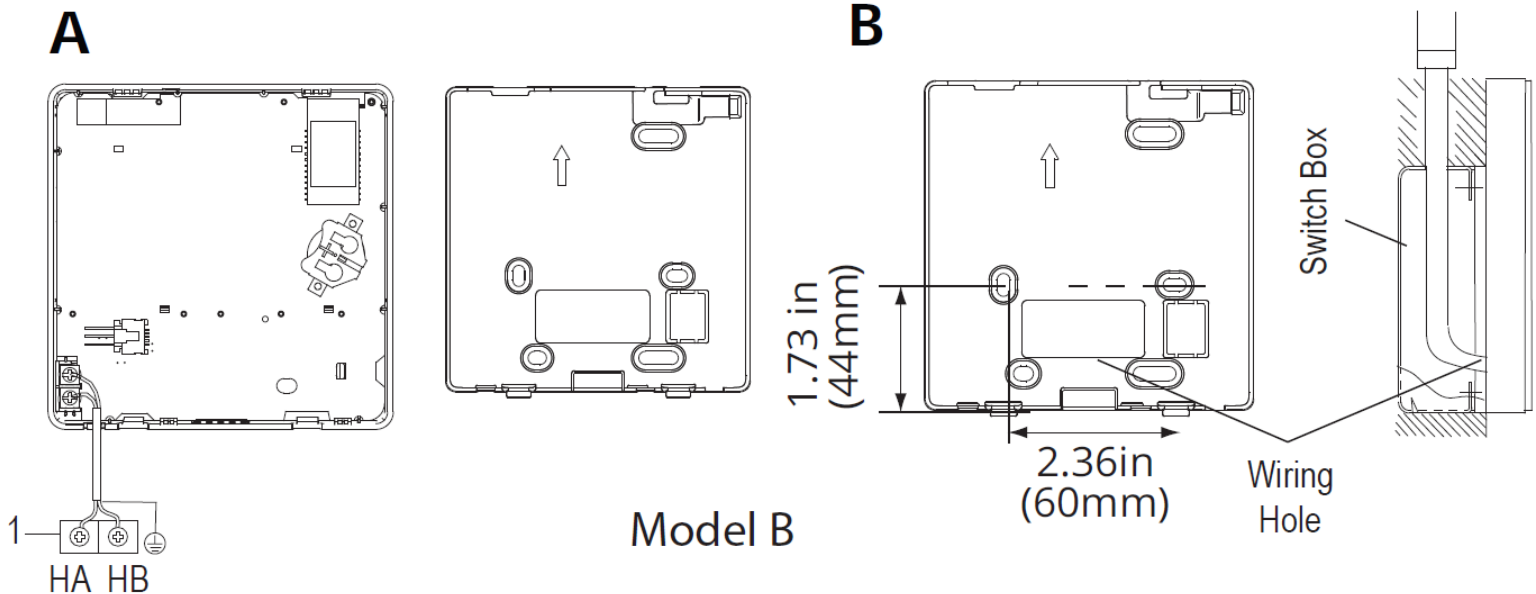

Fig 4-5
- Connect the terminals on the remote controller (HA, HB), and the terminals of the indoor unit (HA, HB). (HA and HB do not have polarity. See Fig. 4-5.)